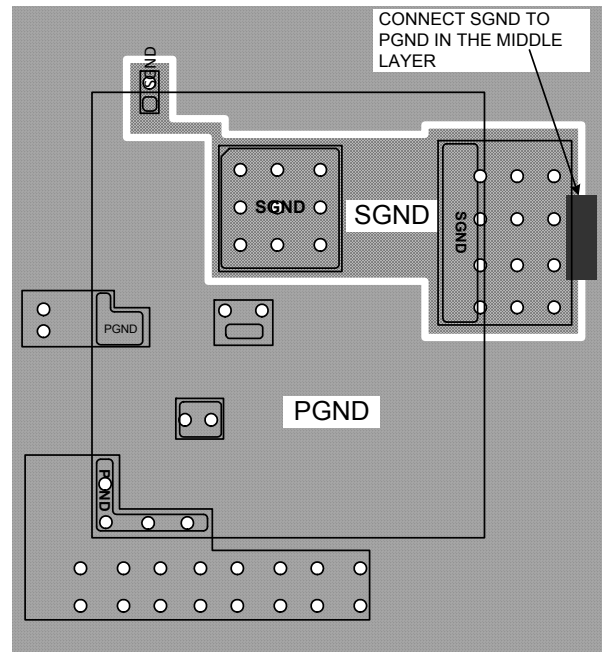

FIGURE 30. RECOMMENDED LAYOUT - CONNECT SGND TO PGND IN THE MIDDLE PCB LAYER AFTER ESTABLISHING SEPARATE SGND AND PGND
- Establish separate SGND plane and PGND plane, then connect SGND to PGND plane as shown in Figure 30 in the middle layer. For making connections between SGND/PGND on the top layer and other layers use multiple vias for each pin to connect to inner SGND/PGND layer. Do not connect SGND directly to PGND on a top layer. Connecting SGND directly to PGND without establishing SGND plane will bypass the decoupling capacitor at internal reference supplies, making controller susceptible to noise.